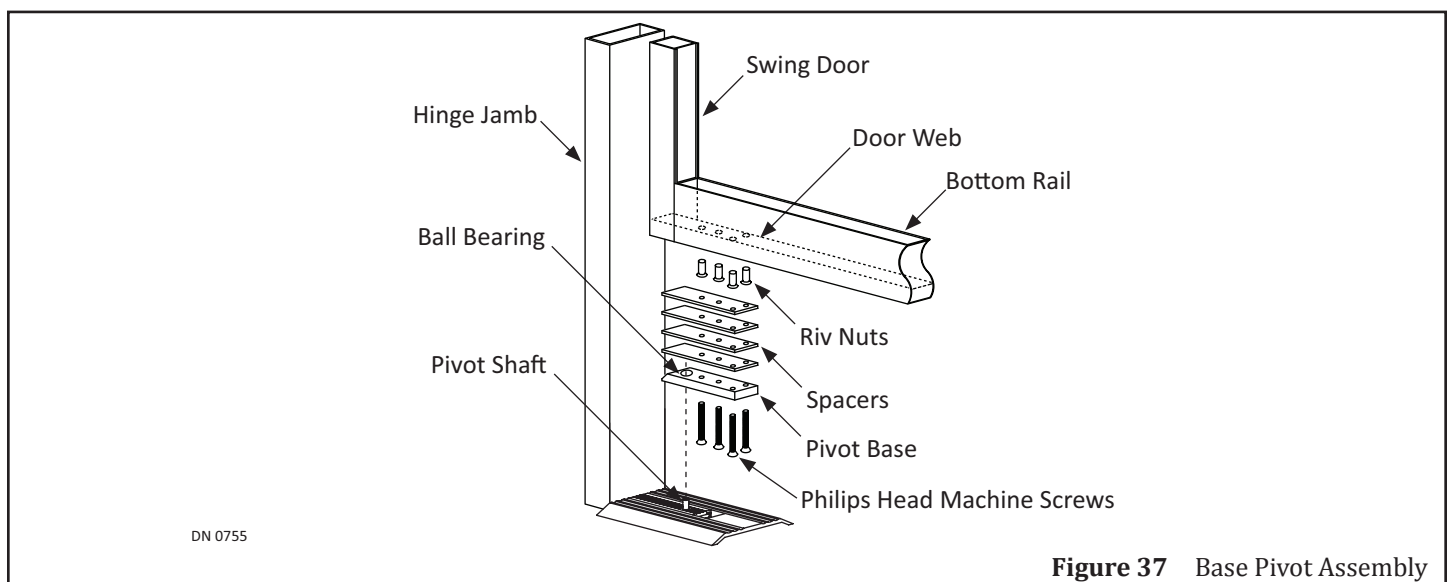

**Figure 36** Mill out the inside wall of the Pivot Stile
*Note: Please refer to Figure 36 for detailed Base Pivot installation measurements.*
- Obtain (1) Spacer. Center the Spacer inside the Web. Align the second screw hole to the second anchor hole marked onto the Web face.
- Use the Spacer as a template to mark the remaining (3) anchor holes. Ensure the Spacer is aligned and centered. Drill (4) .322 anchor holes.
- Countersink the (4) anchor holes to .53 diameter x 82 degrees.